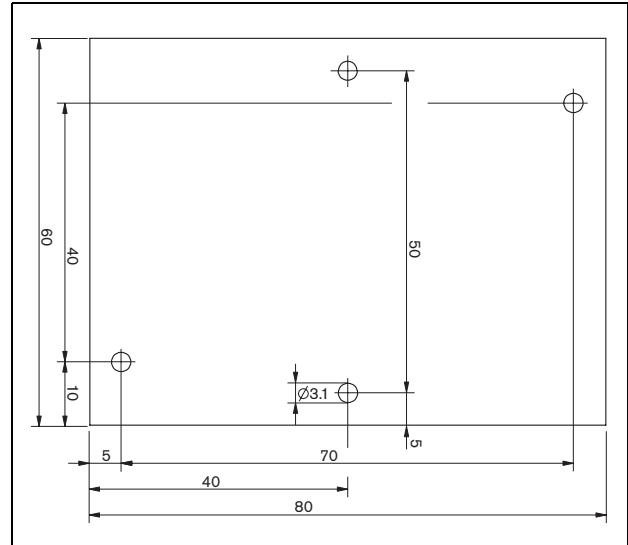

figure 11.5: Supervision-slave PCB dimensions
- 1 Use the holes in the supervision-slave (see figure 11.5) to install it in a loudspeaker. The coils on the supervision-slave PCB must be kept at a distance of 30 mm or more from the loudspeaker magnet and a distance of 50 mm or more from the loudspeaker transformer, otherwise the magnetic fields can disturb the correct operation of the supervision-slave.